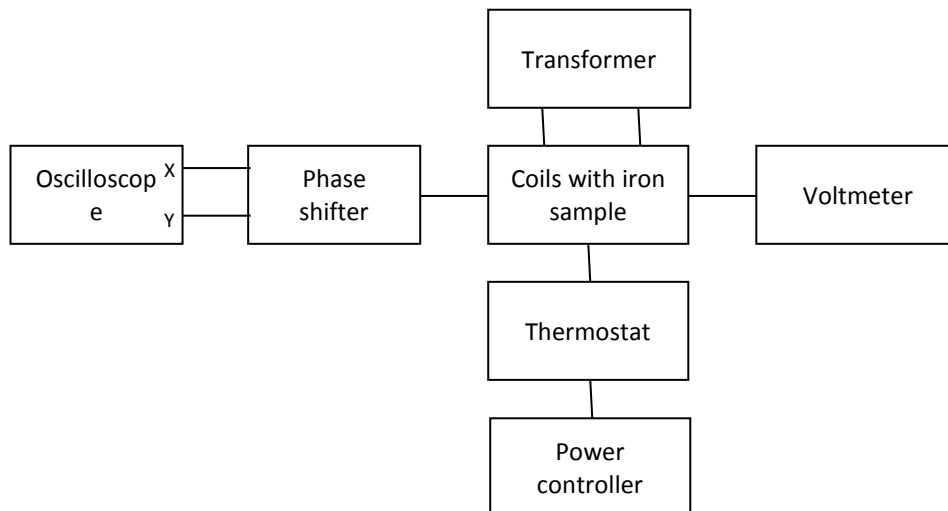

Figure 2. General wiring diagram of the experimental setup.
1. Familiarise yourself with the setup shown in *Picture 1* and with the component connection diagram in *Figures 2 and 3* and in the *Appendix*.